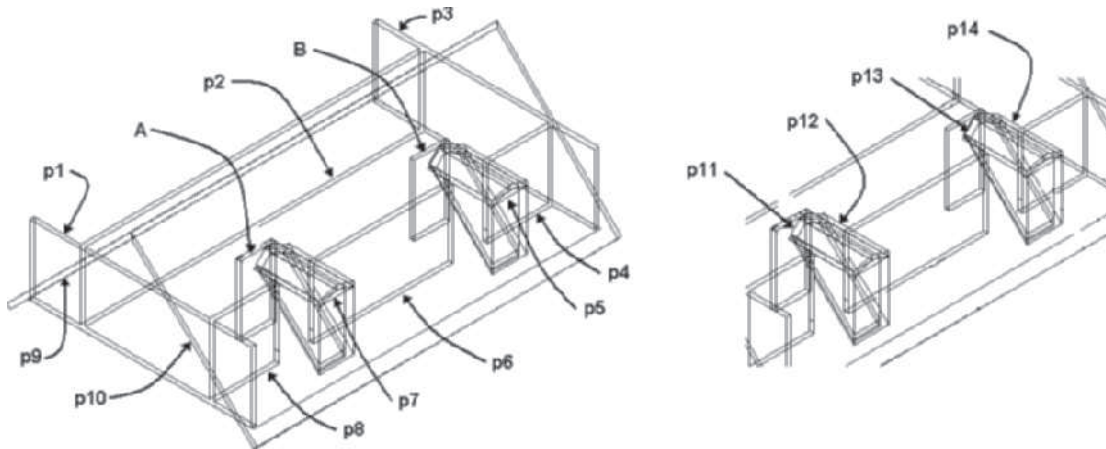

FIGURE 7.64 Selection of walls for edit to roofline
14. Repeat step 12 to create the dormer at the right in Figure 7.64.
15. Select walls **p1**, **p2**, **p3**, **p4**, **p6**, and **p8** as shown in Figure 7.64. Choose **Modify Roof Line** from the Roof/Floor Line command flyout of the Modify panel in the Wall contextual tab. Respond to the workspace prompts as shown below:
Select objects: (Select roof slab at p9 as shown in Figure 7.64.) 1 found
Select objects: (Select roof slab at p10 as shown in Figure 7.64.) 1 found, 2 total
16. Select the walls at **p5** and **p7** as shown in Figure 7.64, right-click, and choose **Roof/Floor Line > Modify Roof Line** from the shortcut menu. Respond to the workspace prompts as shown below:
Select objects: (Select roof slab at p11 as shown in Figure 7.64.) 1 found
Select objects: (Select roof slab at p12 as shown in Figure 7.64.) 1 found, 2 total
Select objects: (Select roof slab at p13 as shown in Figure 7.64.) 1 found, 3 total
Select objects: (Select roof slab at p14 as shown in Figure 7.64.) 1 found, 4 total
Select objects: 1 found (Select wall A as shown in Figure 7.64.)
Select objects: 1 found, 2 total (Select wall B as shown in Figure 7.64.)